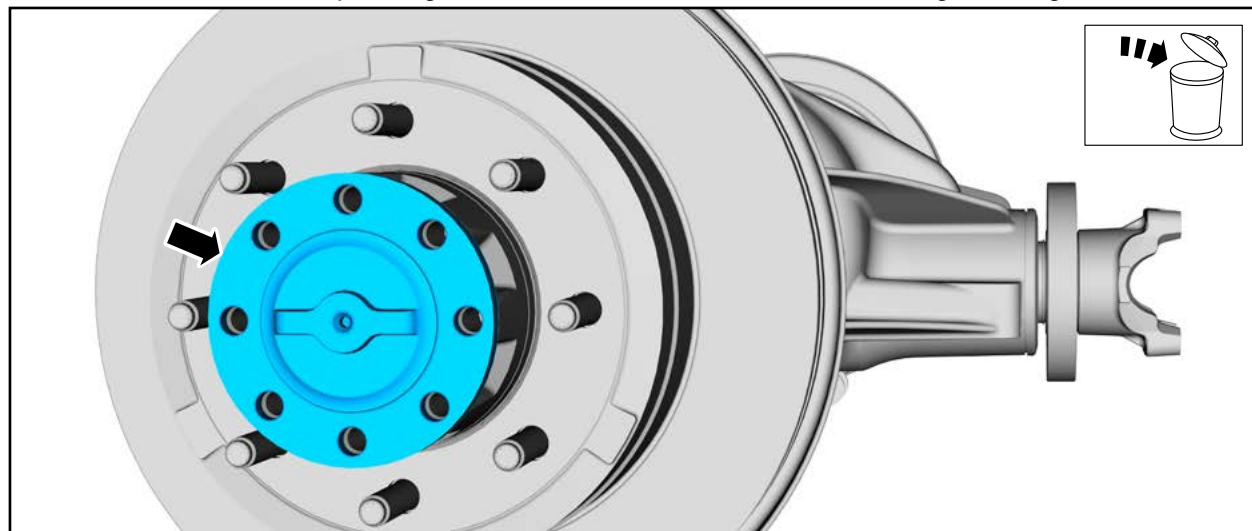

FIGURE 3
5. Remove and discard the passenger side rear axle shaft and axle shaft O-ring. See Figure 3.
8. Install the *new* axle shaft into the passenger side rear axle housing. See Figure 3.